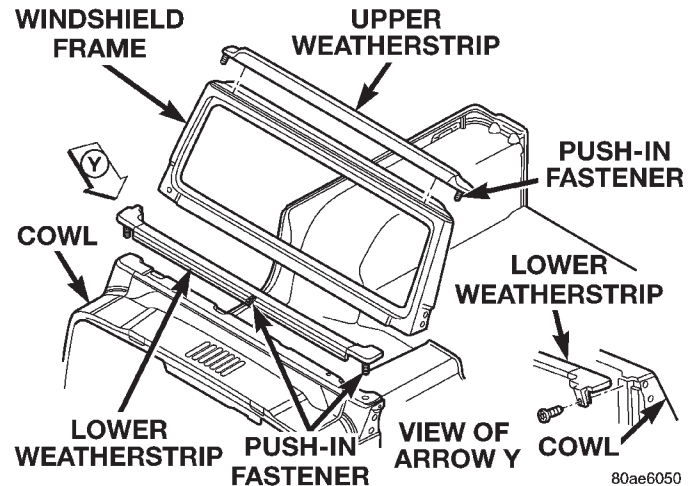

Fig. 8 Windshield Frame Weatherstrip
- (2) Position the weatherstrip on the windshield frame, align the push-in fasteners and press it into place (Fig. 8).
- (3) Remove adhesive backing from the bottom of the weatherstrip.
- (4) Using forceful hand pressure, seat the adhesive on the contact surface.
- (1) Mark the position of the wiper arms and remove the arms.
- (2) Disconnect the top from the windshield frame.
- (3) Remove the cowl grille.
- (4) Remove the torx screws on each side of the windshield frame allowing the windshield frame to tilt to the full horizontal position.
- (5) Disengage the outboard push-in fasteners at the top of cowl and unscrew the fasteners that hold the weatherstrip on each hinge pillar (Fig. 8).
- (6) Disengage the push-in fastener at the center of cowl.
- (7) Remove the weatherstrip from the cowl.